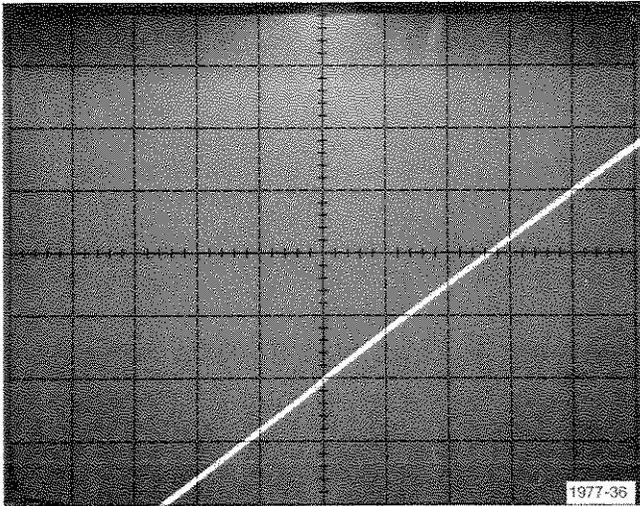

Fig. D-7. Display of the bias current of the LM380.
f. Check the bias current by reading the vertical displacement of the trace from the exact center of the graticule (see Fig. D-7). Typical bias current for the LM380 is listed as 100 nA.